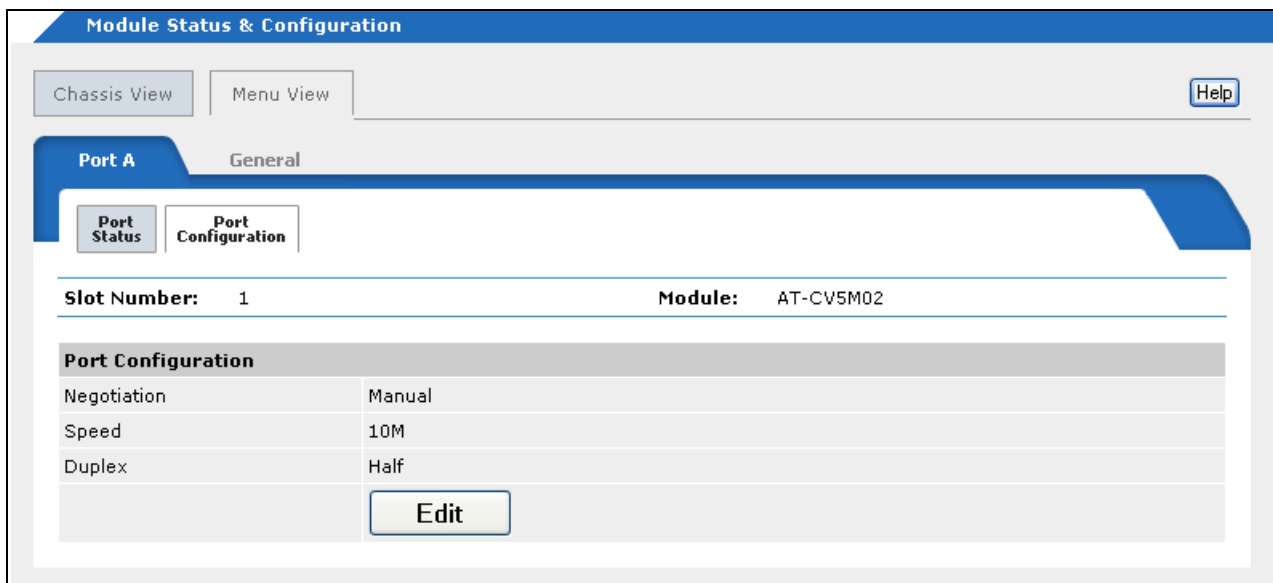

Figure 46. 10/100Base-TX Port on the Management Card
3. Click the **Port Configuration** tab, shown in Figure 46.